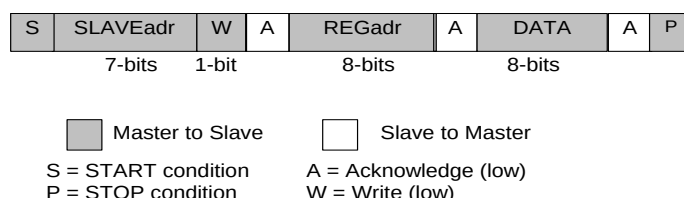
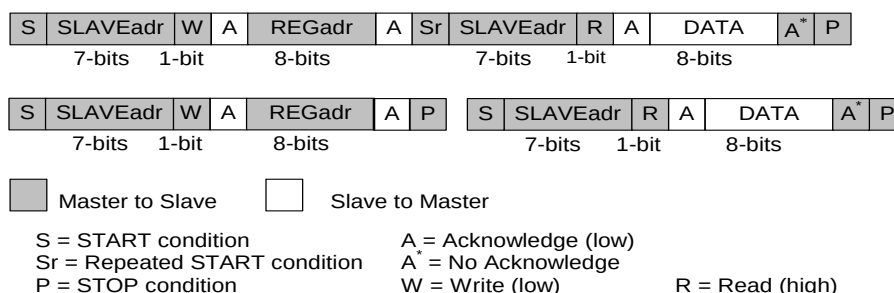

Figure 17: I²C Byte Write (SDA Line)
Figure 18: I²C Byte Read (SDA Line) Examples
The I²C bus is monitored for a valid slave address whenever the interface is enabled. It responds immediately when it receives its own slave address. The acknowledge is done by pulling the SDA line low during the following clock cycle (white blocks marked with A in Figure 17 and Figure 18).
The protocol for a register write from master to slave consists of a START condition, a slave address with read/write bit, and the eight-bit register address followed by eight bits of data, terminated by a STOP condition. DA9132-A responds to all bytes with acknowledge (A), see Figure 17.
When the host reads data from a register it first has to write to DA9132-A-A with the target register address and then read from DA9132-A-A with a repeated START, or alternatively a second START, condition. After receiving the data, the host sends no acknowledge (A*) and terminates the transmission with a STOP condition, see Figure 18.